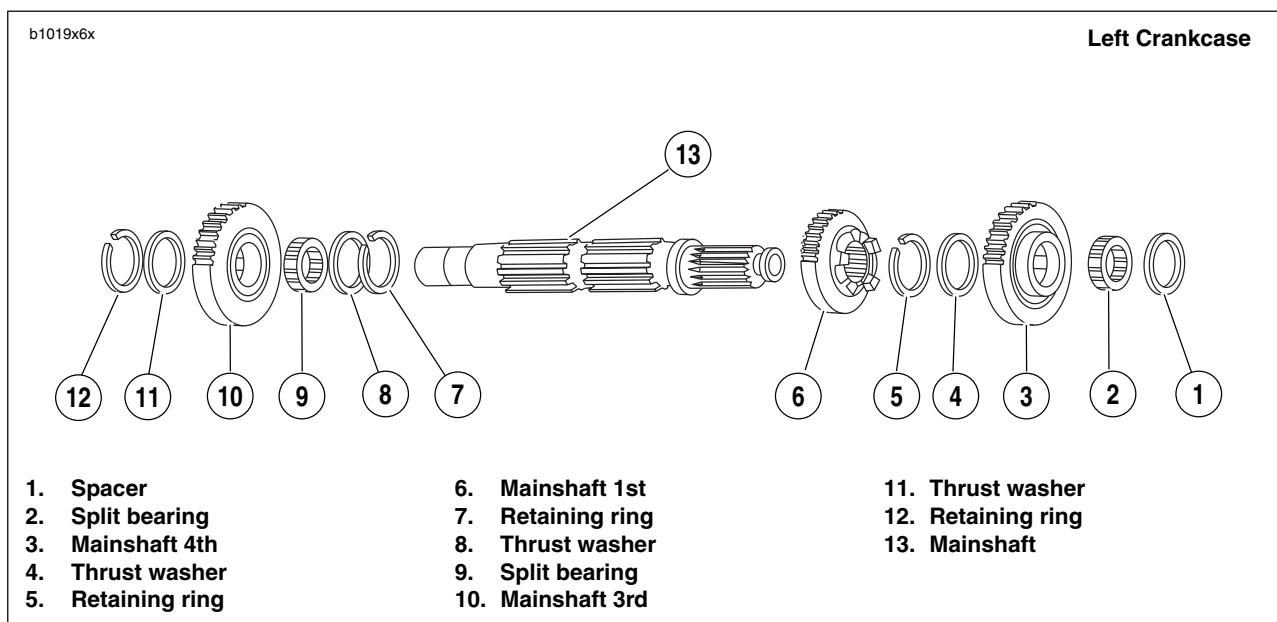

Figure 6-63. Transmission Mainshaft Assembly Once Removed from Left Crankcase/Disassembly
- See Figure 6-63. Remove spacer (1), mainshaft 4th gear (3), split bearing (2) and thrust washer (4) from the threaded end of the mainshaft.
- On the mainshaft, between mainshaft 1st gear (6) and mainshaft 3rd gear (10), use RETAINING RING PLIERS (Part No. J-5586) to expand retaining ring (7) and move next to mainshaft 1st gear along with thrust washer (8).
- Move mainshaft 3rd gear (10) as far as possible toward mainshaft 1st gear (6).
- Expand retaining ring (12) at opposite side of mainshaft 3rd gear (10) and slide off end of mainshaft with thrust washer (11).
- Remove mainshaft 3rd gear (10) and its split bearing (9).
- Slide thrust washer (8) off end of mainshaft.
- Expand retaining ring (7), which is next to mainshaft 1st gear (6), and slide off end of shaft.
- Remove mainshaft 1st gear (6).
- Expand retaining ring (5) and remove.